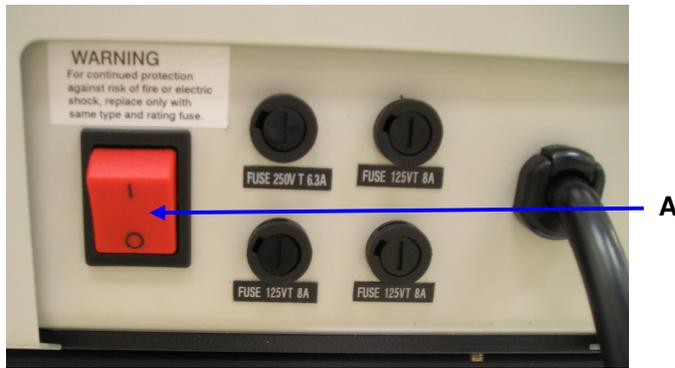

Figure 22
**CUTTER ON/OFF SWITCH** (Figure 22)